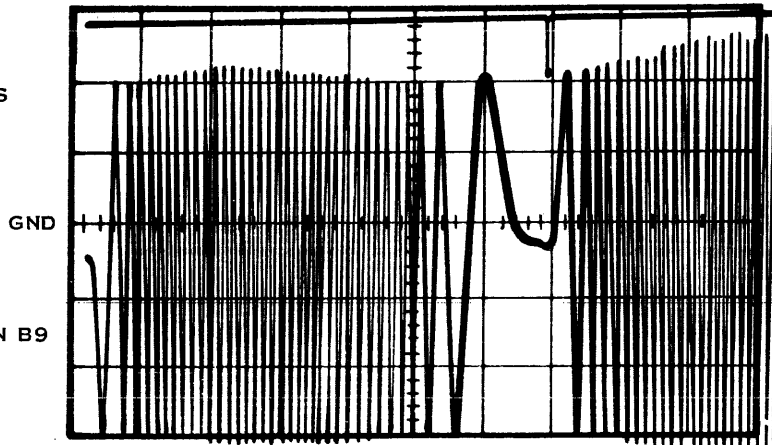

Figure 3-22. Forward Seek
25. Monitor the waveform at TP3. The peak-to-peak amplitude of the last full sinewave before "On-cylinder" goes positive must be 5 ± 0.5 volts. (See figure 3-22 for the proper waveform for forward movement. Figure 3-23 shows the corresponding waveform for reverse movement as described in step 20.)